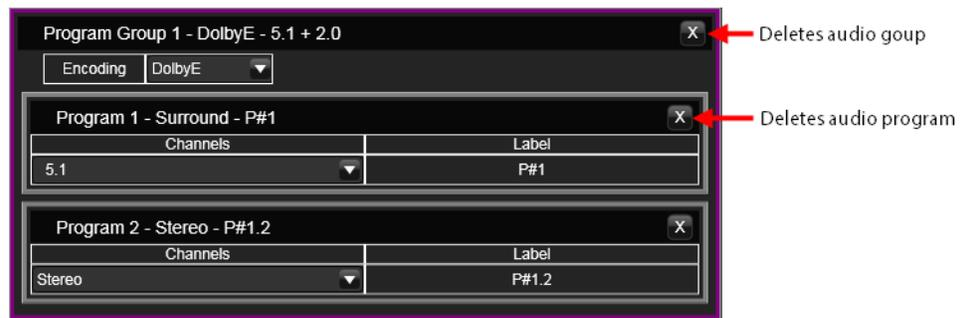

Fig. B-3: Removing audio programs and groups via the Audio Group Editor dialog.
- 3 To remove a program from an audio group, click on the **X** next to the program name, as shown in Figure B-3 on page 92.
- 4 To remove an audio group (and all of its programs), click on the **X** next to the audio group name, as shown in Figure B-3 on page 92.